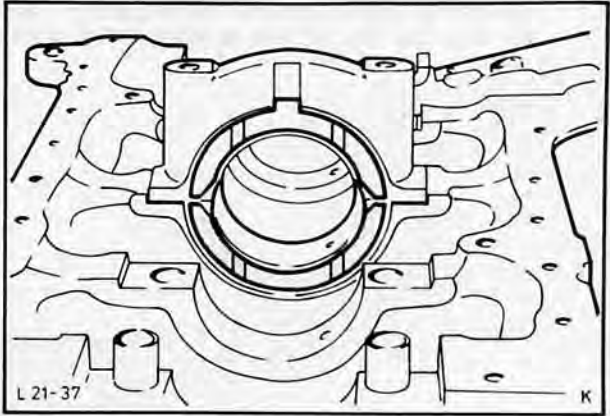

Fig. 88. Half thrust washers centre main bearing
27. Remove main bearing caps together with bearing shells. When removing centre main bearing cap, note position of two half thrust washers and mark them accordingly, Fig. 88.